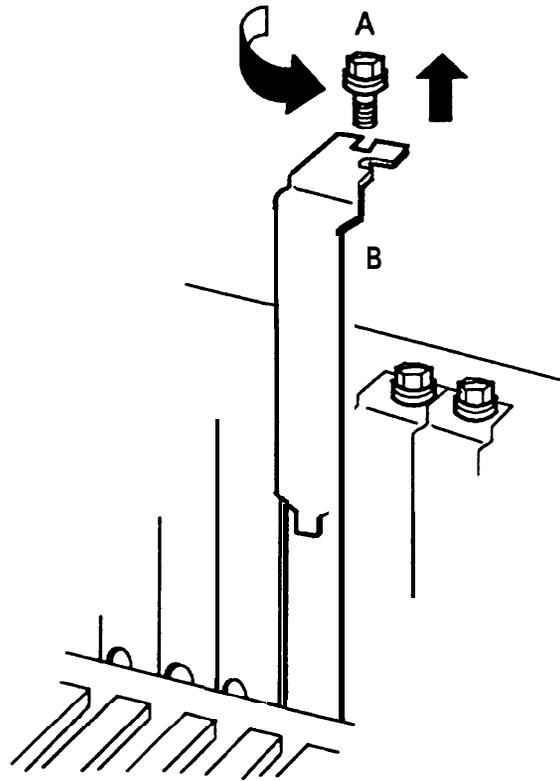

Figure 2-3. Removing Slot Cover (Vertical Slots)
1. Refer to Figures 2-3 or 2-4. Remove the slot cover by removing the screw (A) from the metal cover (B). Then lift out the metal cover. Save the screw to secure the board in place later.